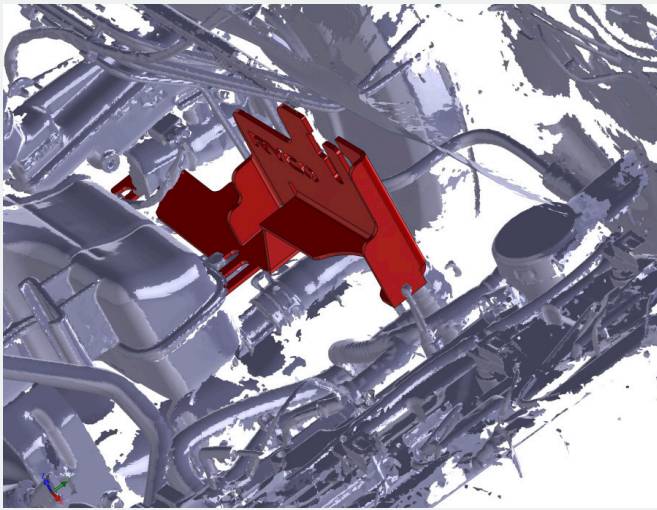
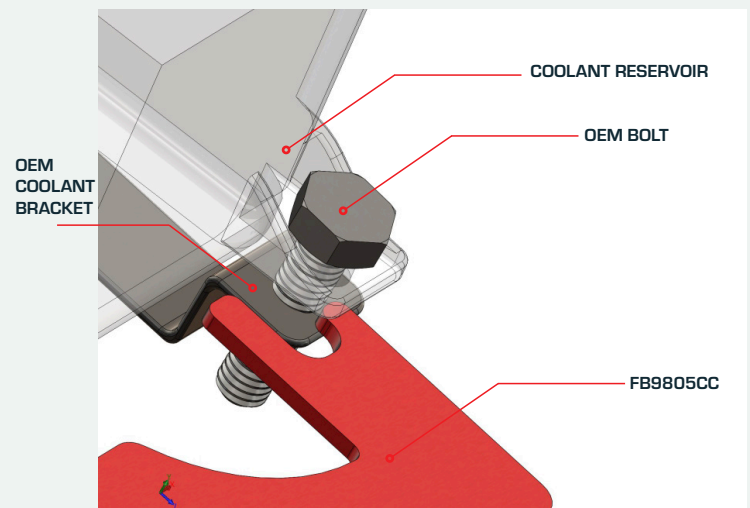

FIGURE 2A
FIGURE 2B
- 2 Locate FB9805CC bracket as shown in FIG. 2A. Slide FB9805CC mounting tabs under the coolant overflow reservoir mounts as shown in FIG. 2B and 2C as far as they'll go.